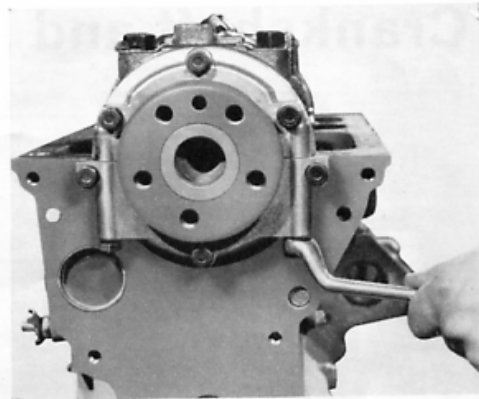

Fig. K.3.
9. Repeat items 3—8 for the remaining two bearings.
- NOTE : To enable the rear main bearing cap to be removed, first remove the two oil seal housing setscrews as shown in Fig. K.3.
1. Remove the two setscrews securing the two rear main bearing oil seal half housings as shown in Fig. K.3.
NOTE : The rear seal half housing securing setscrews will require removal to enable rear main bearing cap to be removed. (Refer to Fig. K.3).
6. Assemble half housings around crankshaft rear journal and fasten together by the two setscrews (See Fig. K.3).